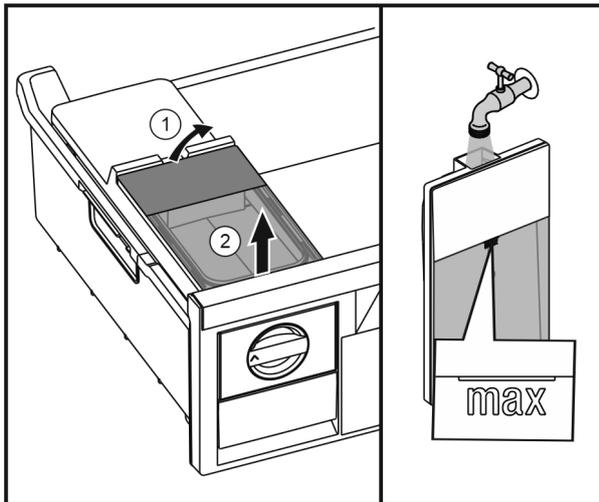

Fig. 28
- ▶ Lift up the water tank at the rear Fig. 28 (1) and remove to the top Fig. 28 (2).